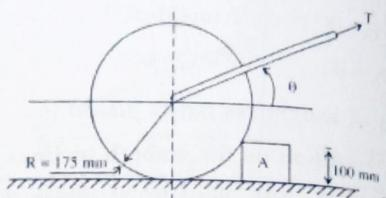

Fig 2.34
- 2) The roller shown in fig. 2.34 is of weight 1500N. What force 'T' is necessary to start the roller over the block A, if $\theta=25^\circ$. Also find the minimum force 'T' required to start the roller over the block A. (Ans.: $T=1759.34 N$, $T_{min}=1355.23 N$)